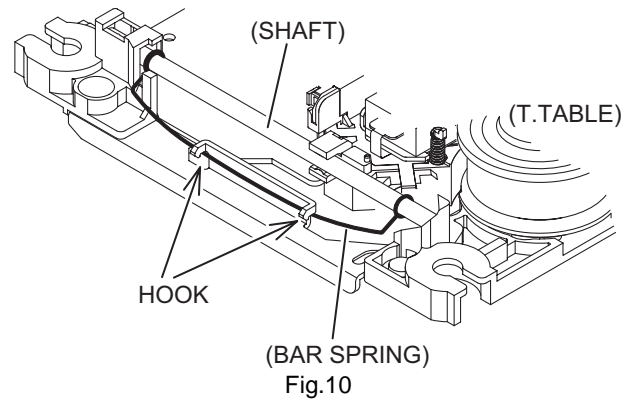

Fig.10
When remove the lead screw, do not loss the middle gear. (See Fig.10 and 11)
- (4) Remove the bar spring pressing the shaft. (See Fig.10)